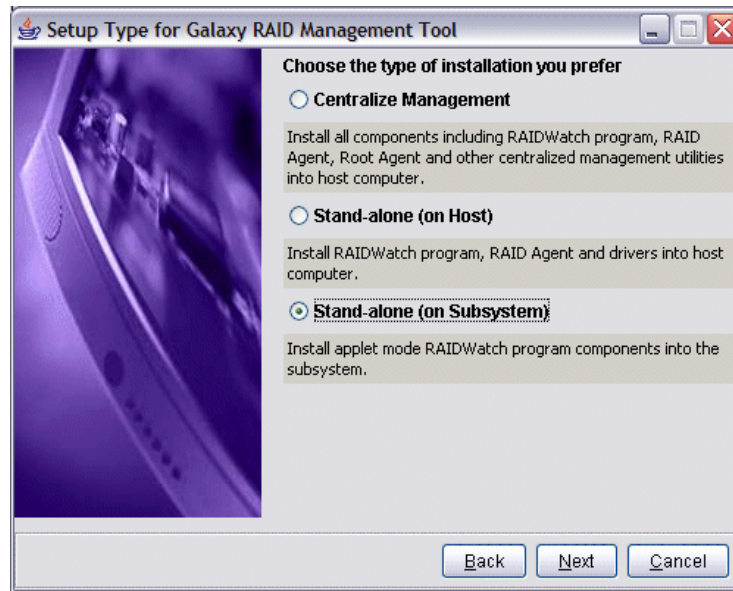

Figure 3-8: Advanced Installation Options
Step 4. If you choose the *Custom* install on the previous screen, three (3) installation modes will appear. These modes, shown in *Figure 3-8*, are *Centralized Management*, *Stand-alone (on Host)*, and *Stand-alone (on Subsystem)*.